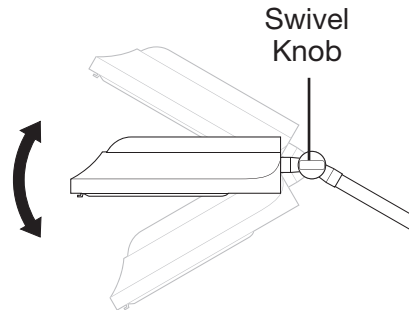

Fig. 5
3. To adjust lamp head angle up or down – loosen swivel knob counterclockwise, place head at desired angle, tighten swivel knob to secure (Fig. 5).